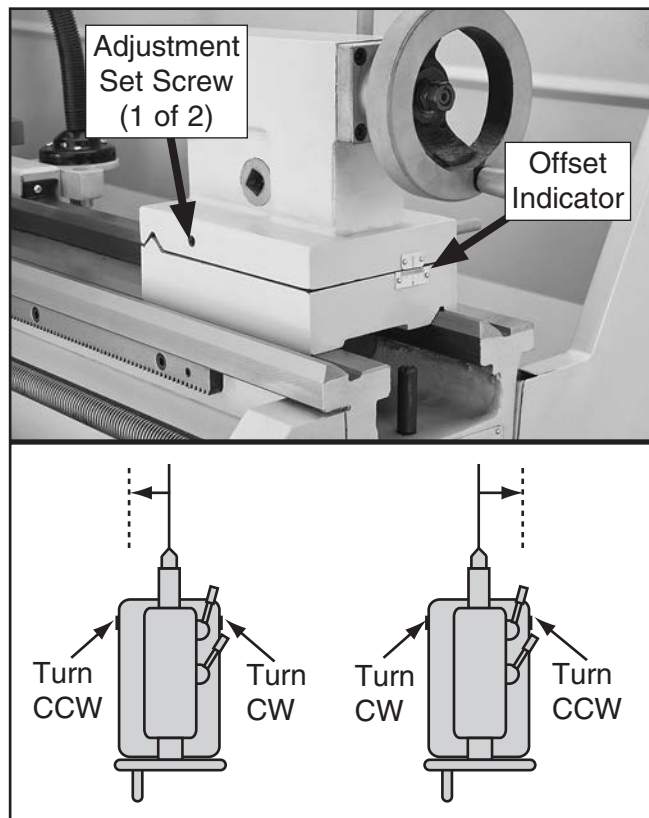

Figure 38. Set screw adjustment in relation to tailstock movement.
1. Rotate the adjustment set screws (shown in **Figure 38**) in the opposite directions for the desired offset.
Note: The marks on the offset indicator (see **Figure 38**) are arbitrary. For a precise offset, use a dial indicator to check quill movement while adjusting the screws.